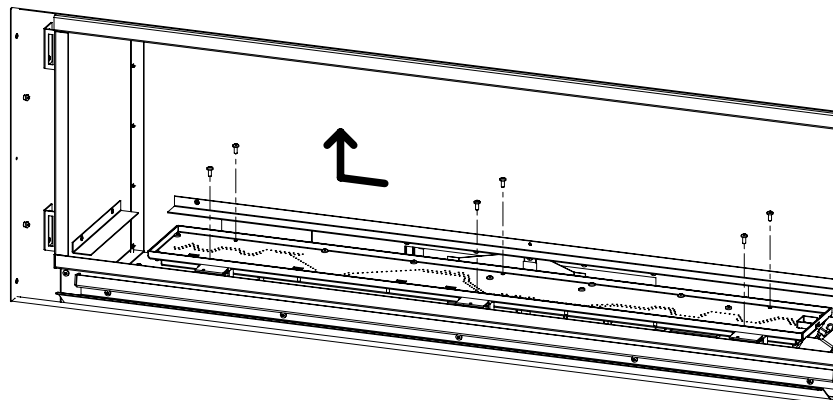

Figure 20: Removing Burner
6. Remove the six T-20 screws securing the burner pan as shown in Figure 20; do NOT remove the other T-20 screws. Once the specified screws are removed slide burner to the left and lift out to remove.